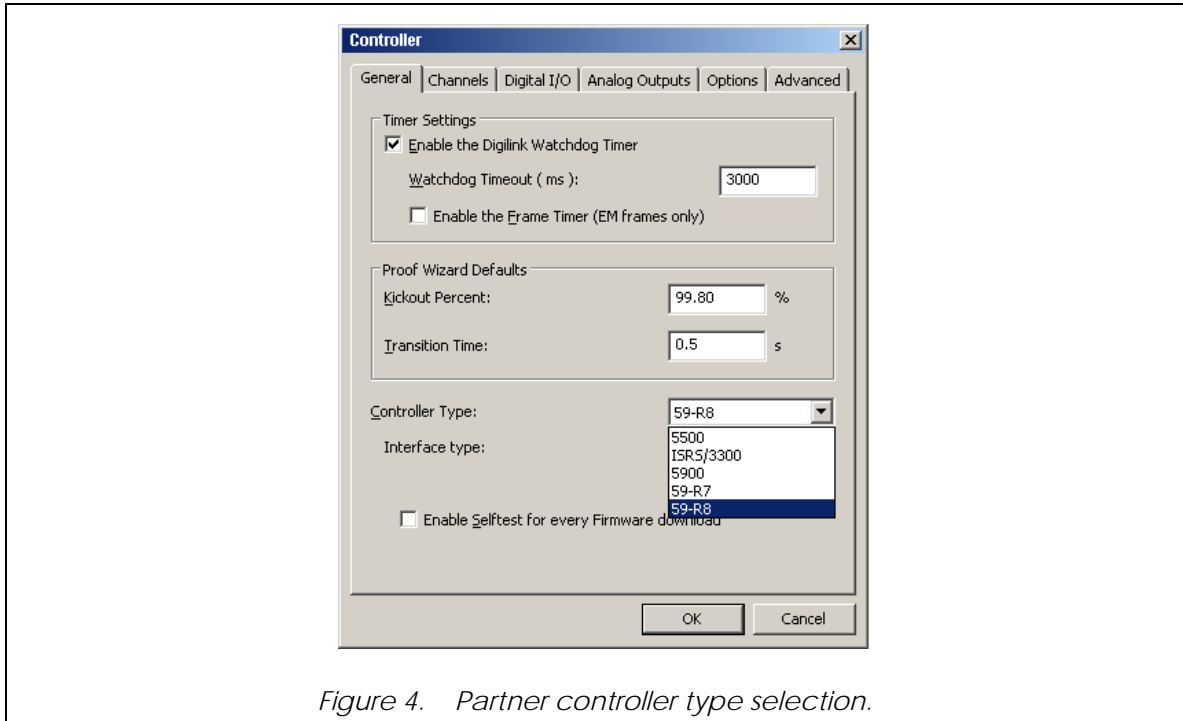

Figure 4. Partner controller type selection.
- v. On the General tab, verify the correct controller is selected (Figure 4).